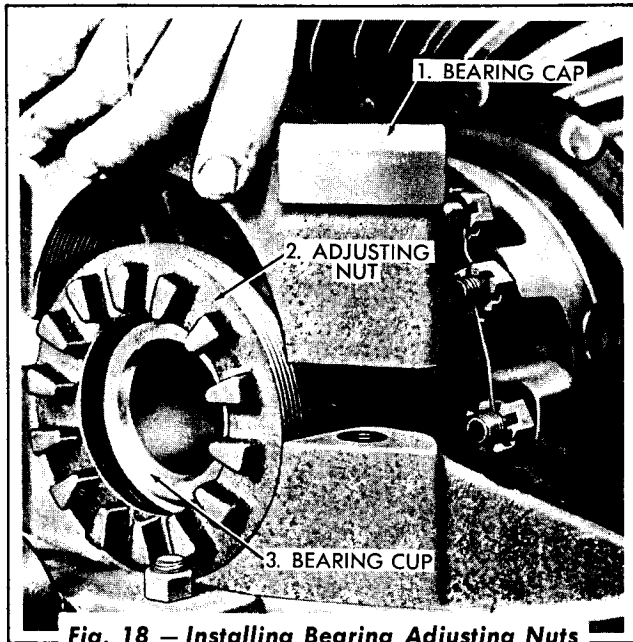

Fig. 18 – Installing Bearing Adjusting Nuts and Bearing Caps
2. Insert the bearing adjusting nuts (Fig. 18) and turn the nuts hand tight against the differential outer bearing cups.
3. Install the carrier bearing caps in the correct location as marked (Fig. 18) and tap them lightly into position.